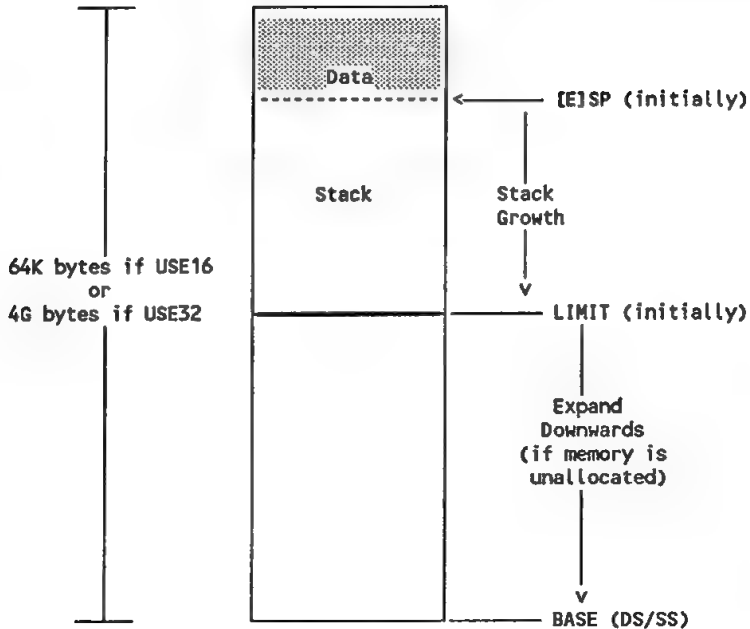

Figure 3-11 Data/Stack Combined Segment Organization
- For **DSC** (data/stack combined) segments, **ESP** points to the first byte above the stack portion of the combined segment. Figure 3-11 shows the organization of a **DSC**. See the **SEGMENT** definition in this chapter for more about **DSC** segments.